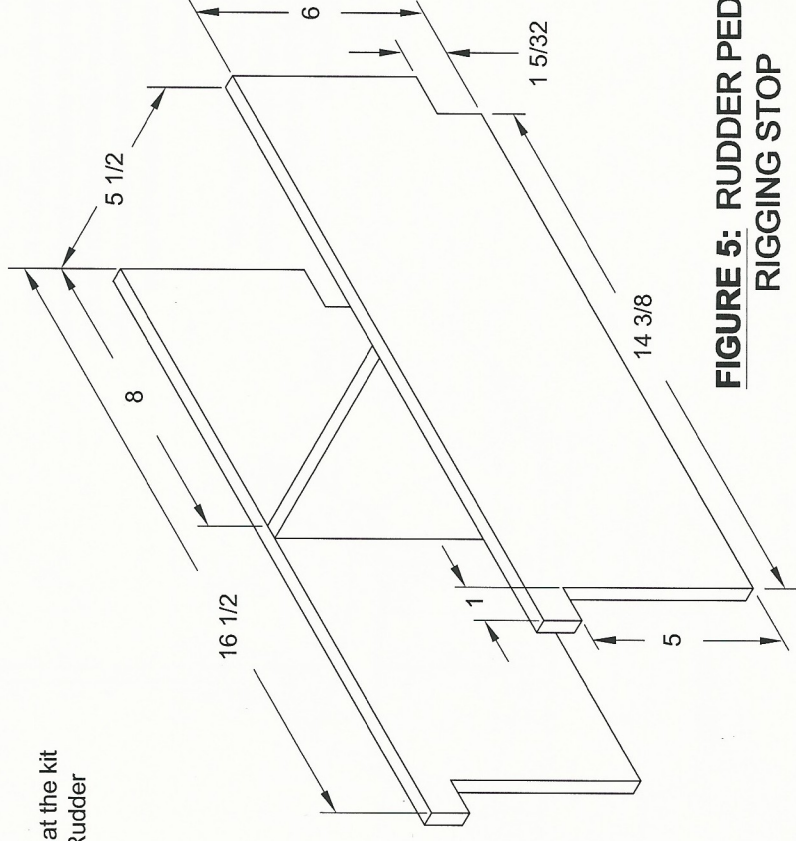

FIGURE 5: RUDDER PEDAL RIGGING STOP
Step 8: Using the wood from the crating that the kit was shipped in, cut and nail together the Rudder Pedal Rigging Stop as shown in Figure 5.